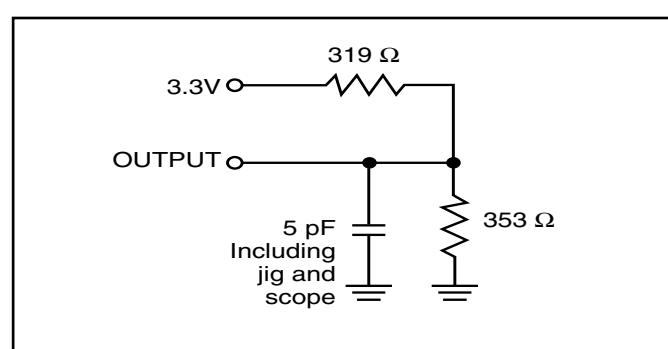

Figure 2.
- Tested with the load in Figure 2. Transition is measured ± 500 mV from steady-state voltage. Not 100% tested.